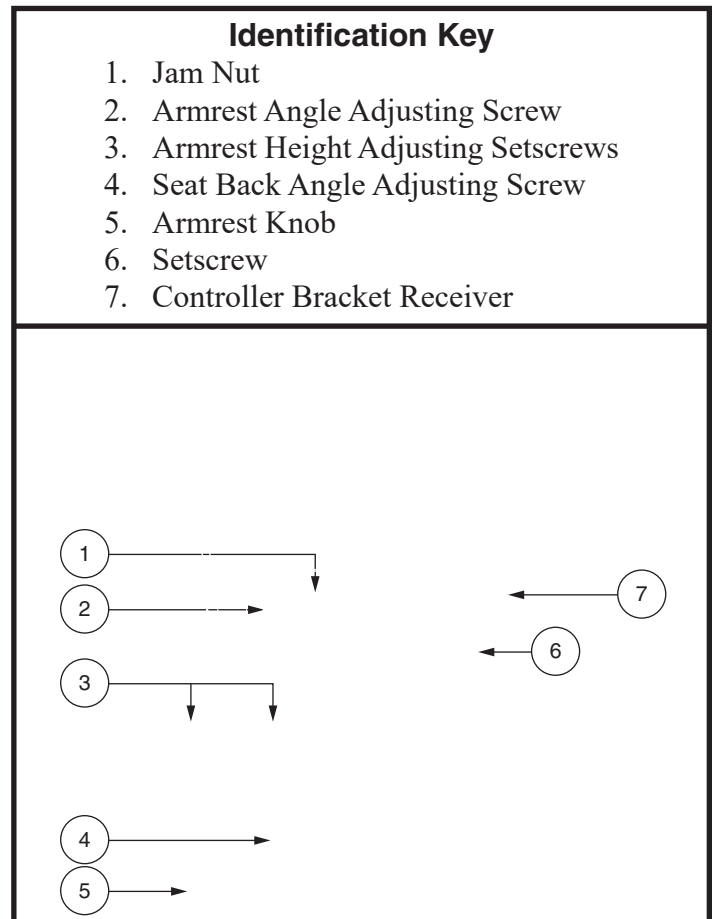

Figure 15. Armrest and Seatback Adjustments
**NOTE:** The most common configuration of the seat adjustment hardware is shown in figure 15. Your product may be equipped with a different configuration. All configurations operate in a similar manner.
1. Remove the adjusting screws from each seat hinge. See figure 15.
1. Locate the adjustment hardware on each side of the armrest receiver bracket. See figure 15.
2. Loosen the jam nut. See figure 15.
1. Loosen the setscrews on the armrest. **See figure 15.**
2. Loosen the setscrew on the controller bracket. **See figure 15.**
5. Loosen the setscrew on the underside of each armrest. **See figure 15.**